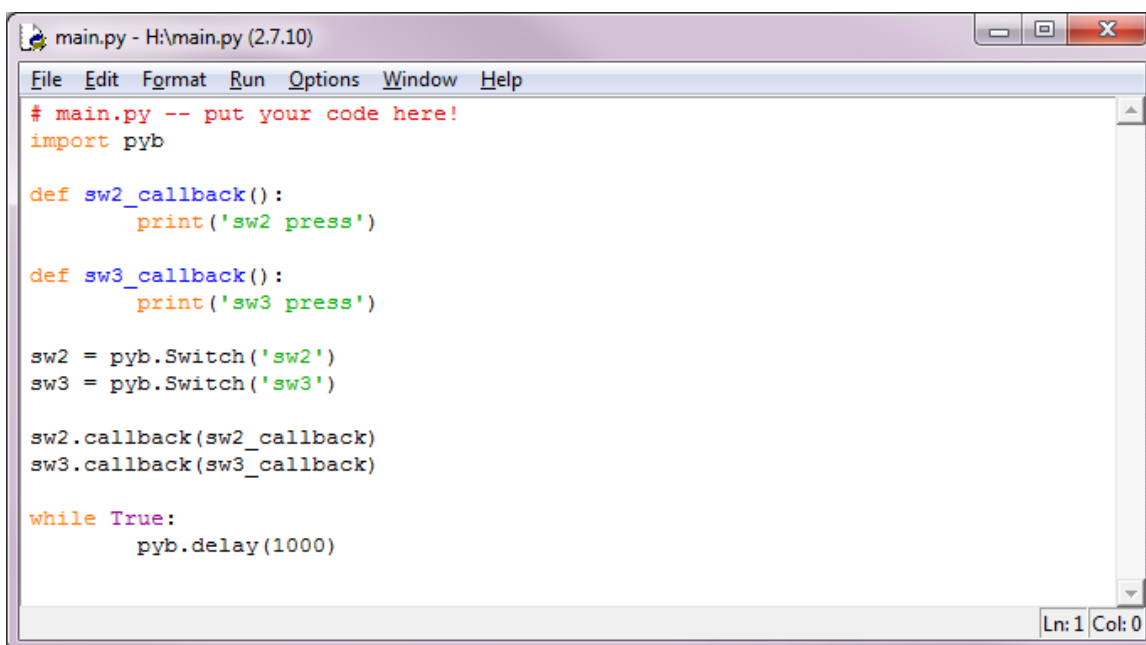

Figure 3-6 Write Switch Button Example Code
3. Update your python code to boot.py or main.py (Figure 3-6).